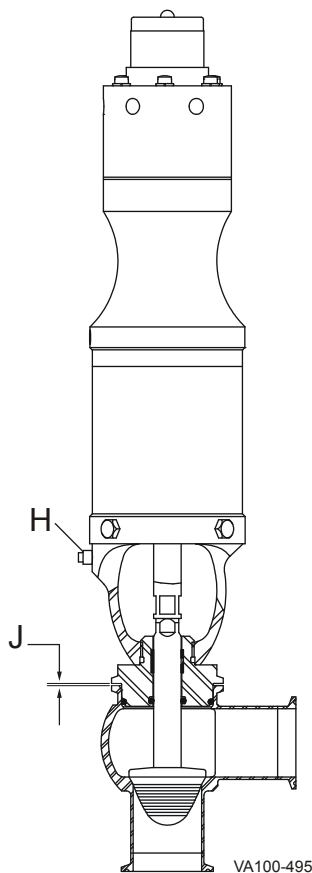

Figure 41: Body to Adapter Gap
A zero adjustment is made to the Moore Positioner to provide proper seat compression. The zero-adjusting screw (Figure 42 and Figure 43, item C) is located under the top cover (item B) of the Moore Positioner. For air-to-raise units, air from the "valve" port (Figure 43, item F) is connected to the yoke air port, Figure 41, item H.
5. Turn the zero-adjusting screw counter-clockwise to extend the valve stem and achieve a $0.062" \pm 0.31"$ (1.575 ± 0.787 mm) dimension (Figure 41, item J).